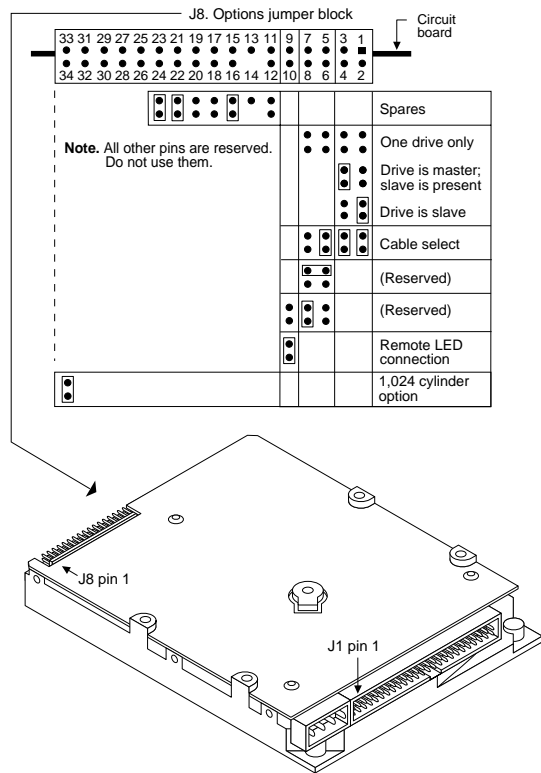

Figure 1. ST5660A Jumpers
5. **Install master/slave jumpers.** The options jumper block J8, shown in Figure 1 on page 4, accepts 2-mm connectors and jumpers. Use Seagate part number 13211-001 or equivalent.
One-drive system: Configure the drive for a one-drive system as shown in Figure 1.
- When using cable select, if your computer and both drives support cable select and you want to use this option, first install three cable-select jumpers on pins 1 through 6 of J8 as shown in Figure 1; then use a special cable as described in step 5 of "Attaching cables" on page 5 to designate master and slave drives.
- If you are not using cable select and instead are using a standard ATA interface cable, configure the drive as a master or a slave as shown in Figure 1.
- 3. Connect the remote LED (optional).** If you want to connect the drive-activity indicating LED of your computer front panel to the drive, attach the two-wire LED connector cable from the case to pins 9 (–) and 10 (+) of jumper block J8 (shown in Figure 1).